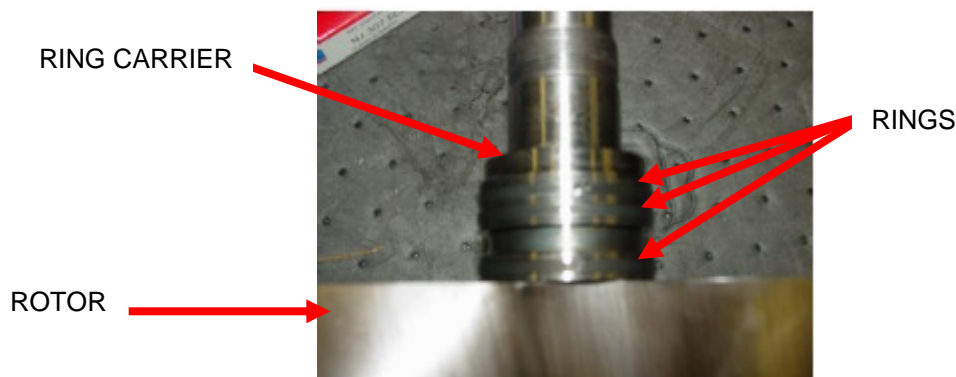

FIGURE 7-1 – INSTALL PISTON RINGS
6. Install the piston rings (15) into the 4 piston ring carriers starting with the ring closest to the rotor body. Ensure that the ring ends are hooked together properly. Offset the gaps in the rings 180 degrees. See Figure 7-1.
13. Install 2 dowel pins (19) into the drive end of the air cylinder.
15. Attach the bearing housing to the air cylinder using 6 socket head screws (21) and washers (20). The screws should have a nylok insert. Tighten the screws in an alternating pattern starting with the middle ones. Torque the screws to 38 ft-lb in 2 steps.
16. Heat 2 seal flingers (34) to 275 degrees F. After heating use a gauss meter to check the flingers for magnetism. The magnetic flux density must be less than one gauss. Use the flinger drive tool (EQ143806) to drive them into position on the ends of the piston ring carriers of the drive end of both rotors. Be careful not to damage the threads on the rotor shafts. Ensure each flinger is seated against the shoulder on the ring carrier and that it is recessed below the end of the ring carrier.